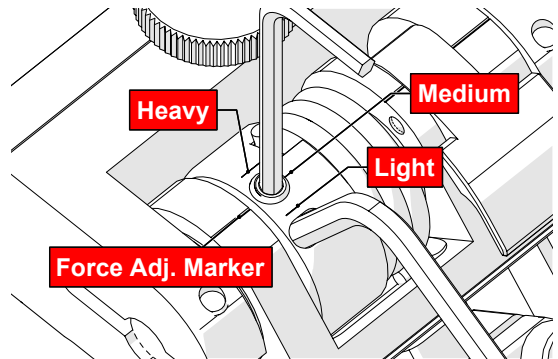

Fig. 182 - Choose desired tension
6. Gently apply pressure on the long leg of the 3 mm hex wrench until the force adjustment marker lines up with the desired spring tension. While keeping the markers in line, tighten the force adjustment screw (Fig. 182).